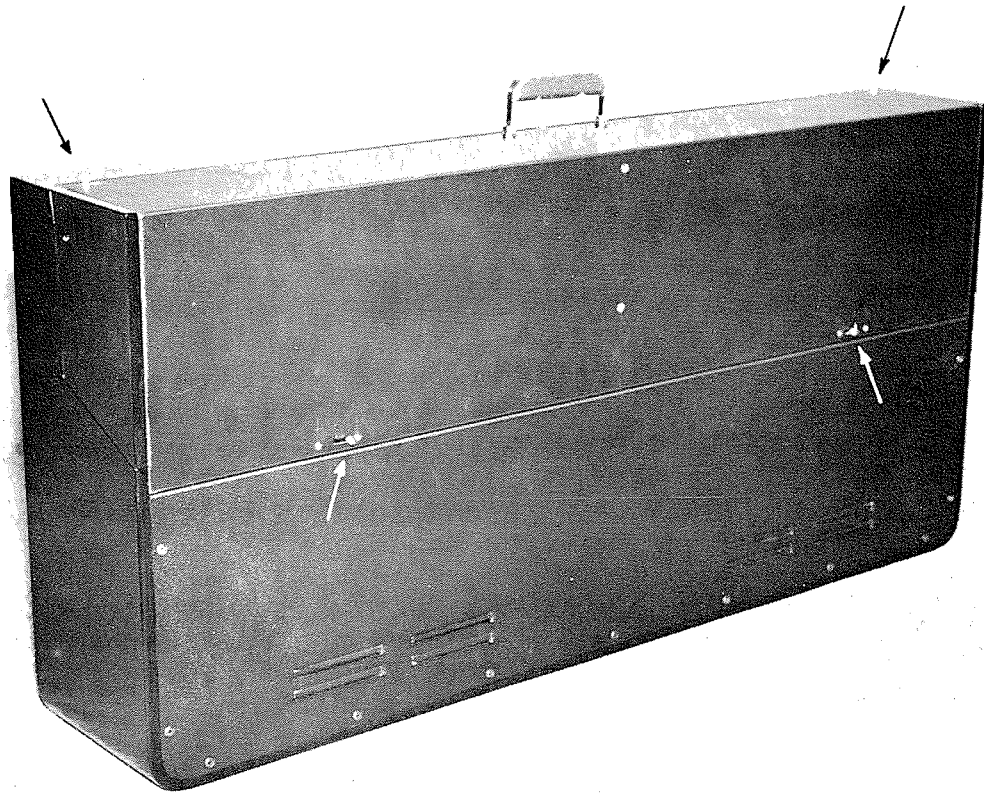

Fig. 120-B
- a. First turn the volume completely down. Starting from the bass end, strike each key, with a normal blow, three (3) times. It may be necessary to repeat this procedure several times.
- b. If this does not take care of the noise, please refer to the Electronic Piano Service Manual, Page 7, under Tone Producing Principle and familiarize yourself with the contents. Remove the eleven screws in the top (Fig. 120-F) and remove the top of the piano. Now refer to Page 120-9, Fig. 120-I. Place a piece of white paper between the hammer (25) and the reed (26) and turn a flashlight on the paper. This enables you to see any foreign material that may still be on the reed or pickup (9). You may find that the reed is "off center" which will show up by having more light on one side than the other. This latter condition can be corrected by loosening the reed screw and re-centering the reed. Be sure the reed screw is firmly tightened after the reed has been centered.